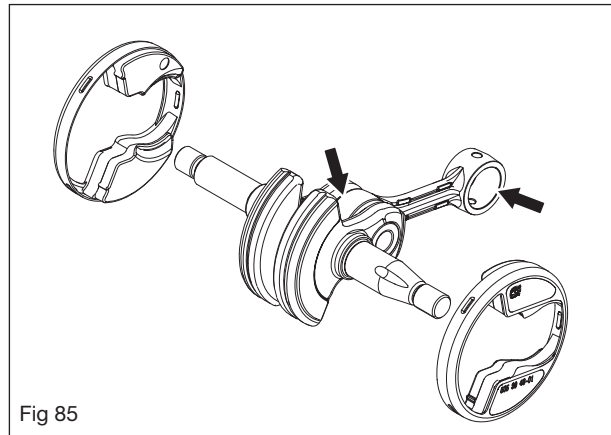

Fig 85
Fit the cover plate X-Torq intake (576 48 34-01) at the air valve and cover plate, intake (576 48 35-01) at the carburettor using screws as outlined in Figure 85.
Remove the spark plug and screw in the 576 38 48-01 pressure tester. Connect the 531 03 06-23 pressure gauge. See Figure 85.
- That the big-end bearing does not have any radial play. Axial play is permitted. See Figure 85.
- That the bearing surface for the gudgeon pin bearing does not have any score marks or is discoloured. See Figure 85.